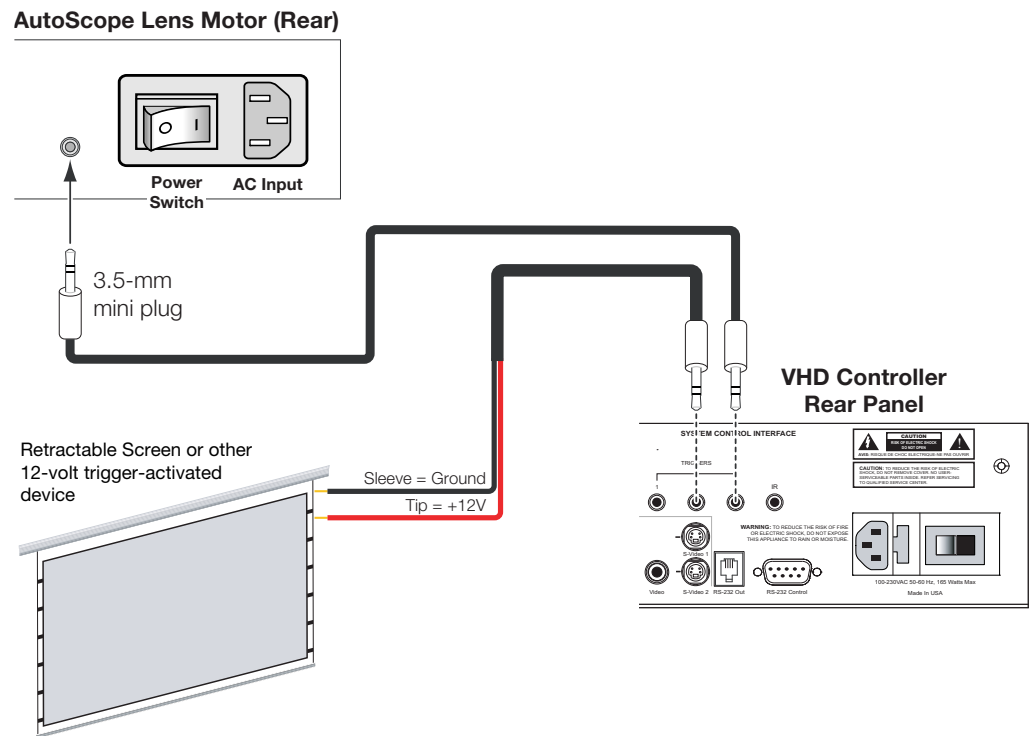

Figure 3-15. Connecting 12-Volt Trigger Outputs
If your Vision 140/150 is equipped with a CineWide with AutoScope system, connect the AutoScope lens motor to a 12-volt trigger output on the VHD Controller; see Figure 3-15.
- 3. If this is an AutoScope-equipped projector, turn on the main power switch at the rear of the AutoScope lens motor. The lens motor power switch is located next to the AC input (see Figure 3-15).